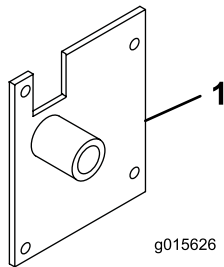

Figure 12
3. Using the mounting holes in the left side of the frame, secure the left hopper mounting bracket to the frame with 4 bolts (5/16 x 1-1/4 inch) and locknuts (Figure 12).